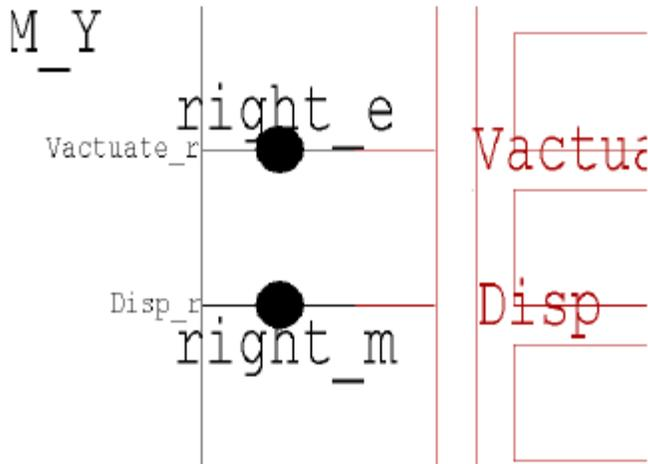

Figure 6: right\_m and right\_e nodes
- ✂ Edit the node labels orientations to look somewhat like the layout in Figure 6.